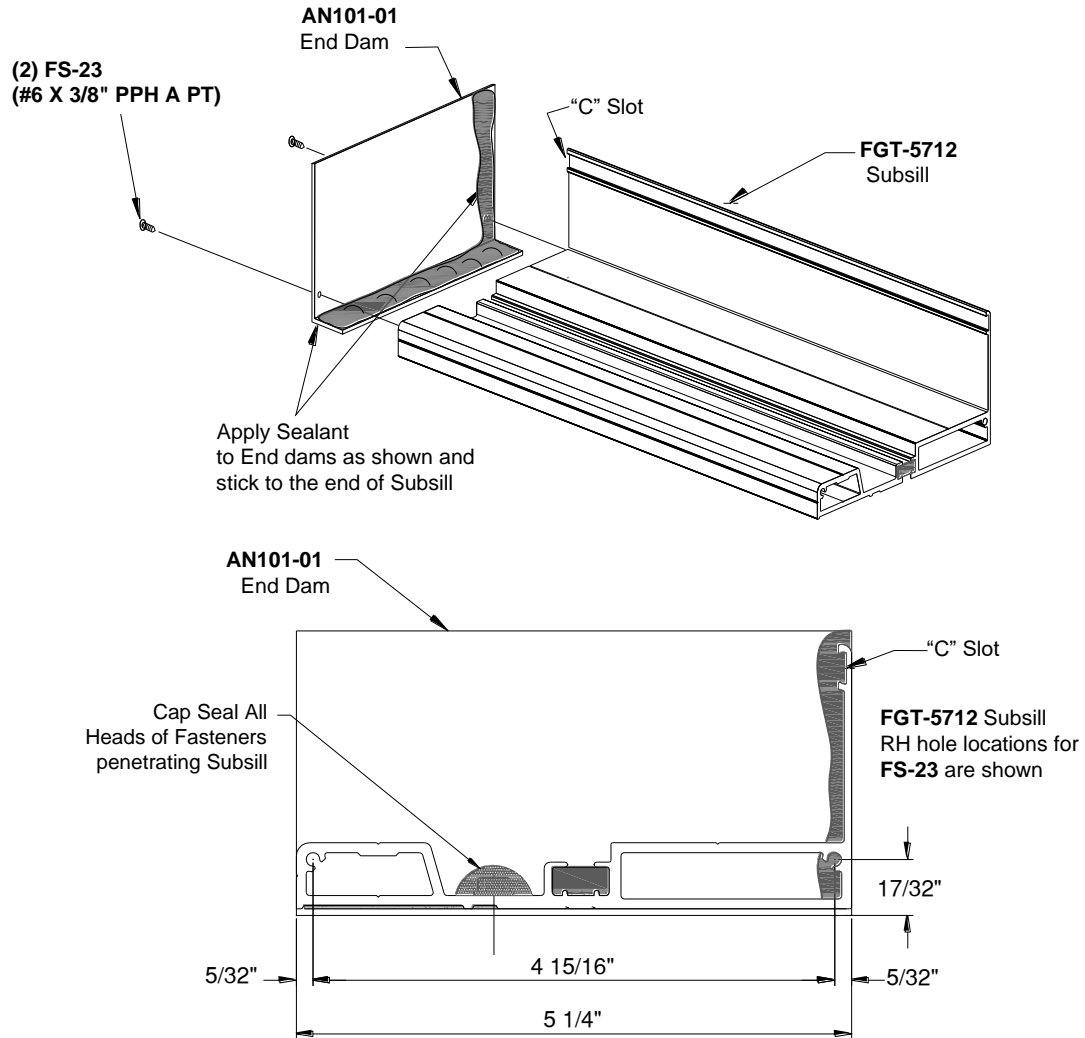

Figure 9: Subsill End Dam Attachment
- 7.1 **AN104-01** End Dam is pre-fabricated. If using **AN101-01** End Dam, drill holes per detail in *Figure 9*. Mirror for opposite end.